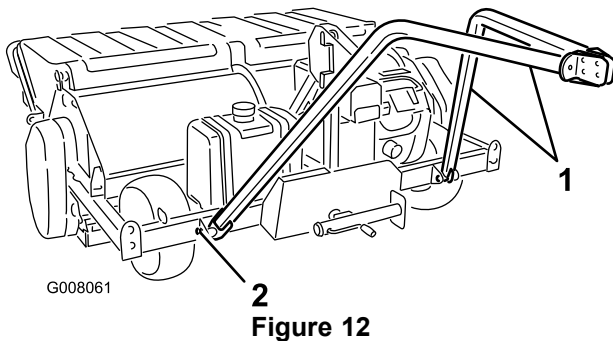

Figure 12
1. Mount a tow-arm to each tab on the front of the core processor with a flag pin (Figure 12). Secure the flag pins to the tow-arms with a 3/8 x 1-1/4 inch screws and flange nuts. Position the tow-arms as shown in Figure 12.